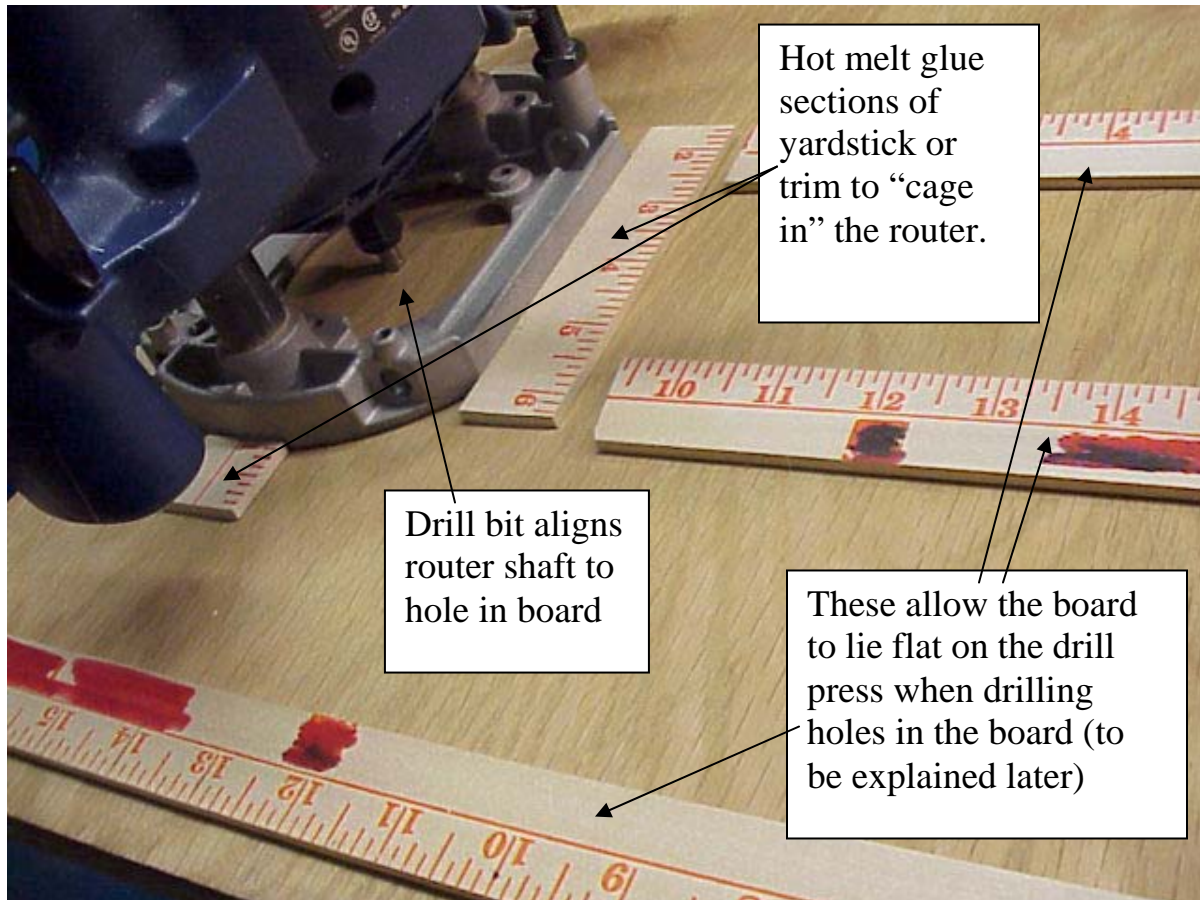

Figure 3-19: "Caging in" the router on bottom
- 5) Using hot melt glue and sections of yardstick (or trim), “cage in” the router. Refer to Figure 3-19. DO NOT GLUE THE ROUTER TO THE BOARD. These sections of yardstick will retain the alignment of the router to the hole.